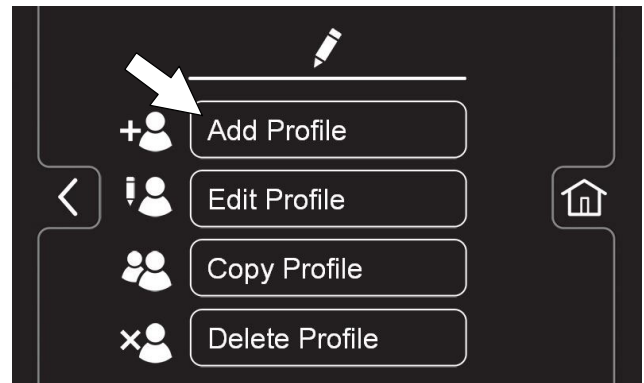

FIG. 178
- Press the Add Profile button to add a new user profile (Figure 178).